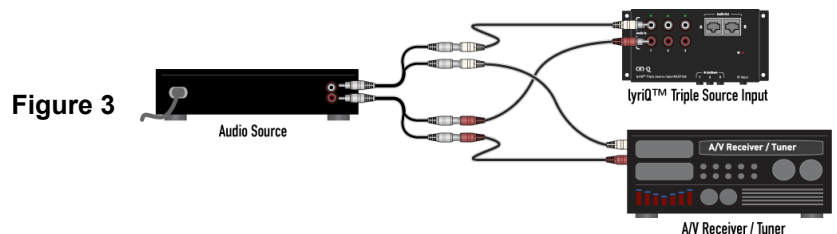

Figure 3
- If an audio component is being shared with an A/V receiver and the multi-source system, and doesn't have secondary fixed stereo line level outputs, use two Y-cables to split that component's output signal so it can be sent directly into one set of RCA jacks on the Triple-Source Input and also to the A/V receiver (see **Figure 3**).
NOTE: Connection to the source itself is recommended. If the source doesn't have two outputs, two "Y" cables can be used to share the source with the lyriQ™ system and an A/V receiver (see Figure 3). If the output of a receiver / preamplifier is to be used as well, ensure that a fixed output is used - such as a tape output - not a variable one such as a pre-amplifier output. If this is to be shared, two "Y" cables can again be utilized.